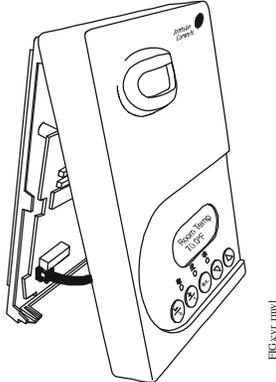

Figure 1: Removing the Cover (T606MSx-4+PIR Model Shown)
2. Pull the bottom edge of the controller cover and open the controller as illustrated in Figure 1.